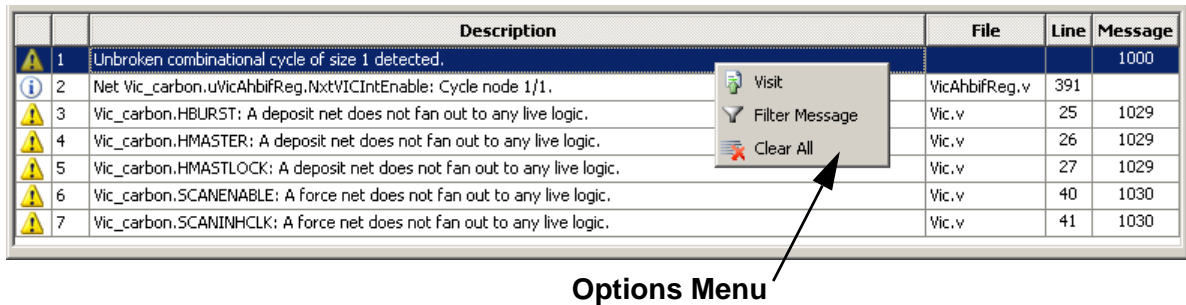

Figure 2-39 Error List Context Menu
- Right-click any item to display the Error List Options menu (Figure 2-39).